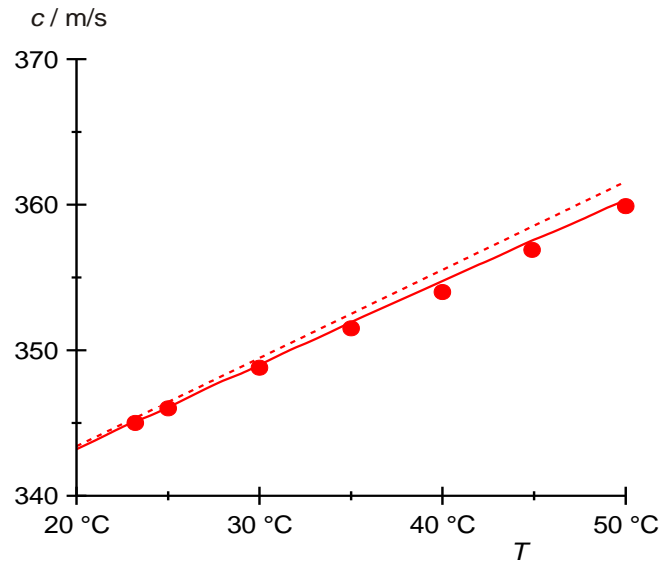

Fig. 4: Speed of sound c in air as a function of the temperature T .
- Plot the speed of sound c against temperature T in a graph (Fig. 4).
- Use equations (3) and (5) to calculate how the speed of sound depends on the temperature with the following parameters:
Enter the results in a graph of c against T (Fig. 4).